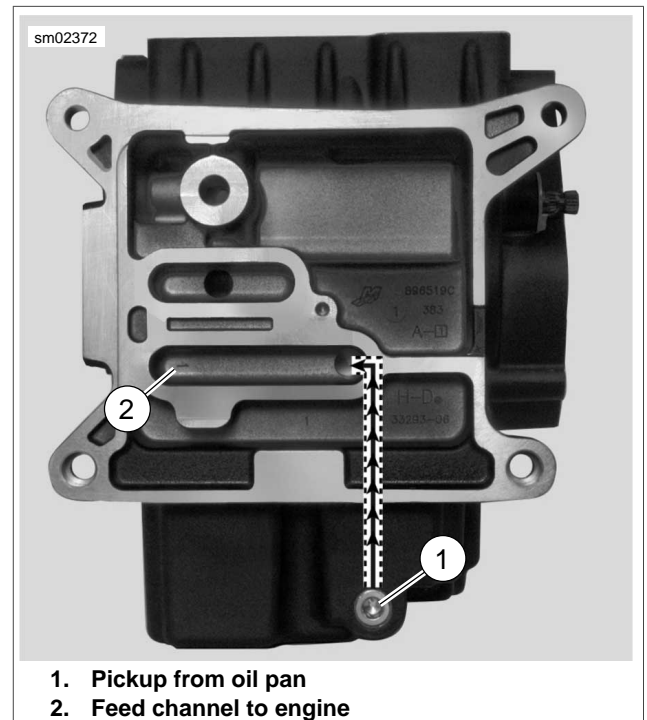

Figure 3-1. Oil Flow from Pan
See Figure 3-1. Oil flows from the oil pan (1) through a passageway at the front of the transmission housing (2).